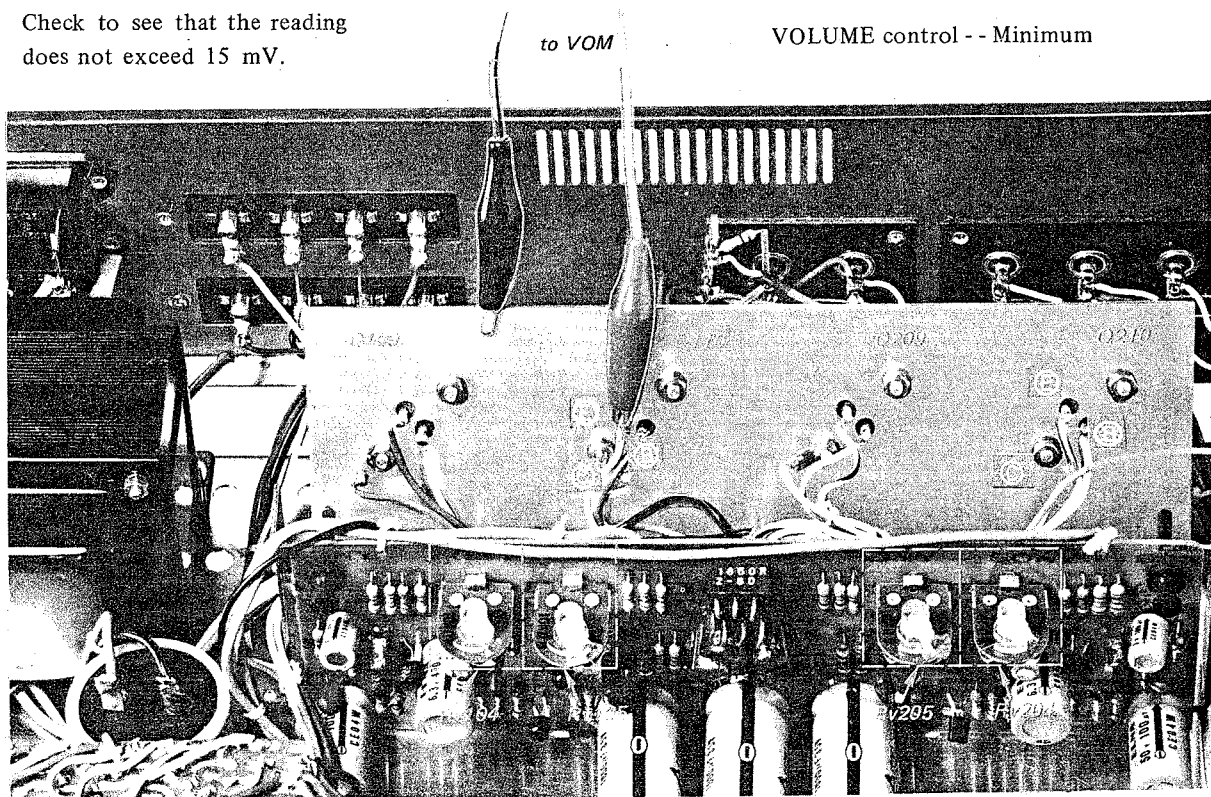

Fig. 5-1 VOM connection point and parts location
2. Connect the dc voltmeter between the emitter of Q110 and ground, as shown in Fig. 5-1.
1. Set the semi-fixed resistors (Fig. 5-1) on the power-amplifier board as follows: